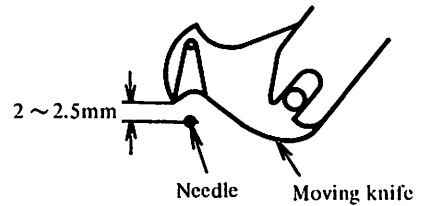

Fig. 19
1) The correct position of the moving knife when it has moved to its maximum range is, as shown in Fig.19, when the tip of the moving knife has retreated to 2~2.5mm(1/6"~3/32") from the center of the needle. When the retreated range is less than this position, it cannot scoop up the needle or bobbin thread at the trimming instant, while if it's too much, the feed dog and the moving knife might hit each other. Therefore, it is very important to match the position of the moving knife correctly.